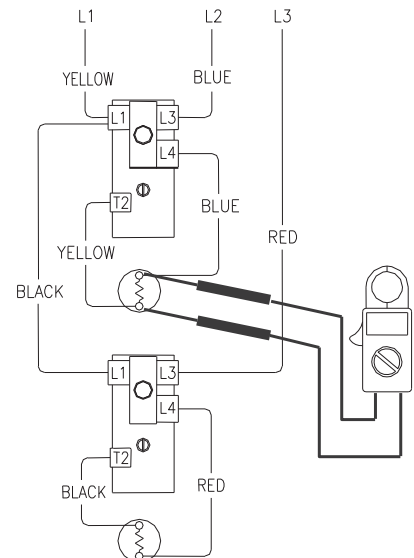

Figure 19
5. Check across upper element terminals (see Figure 19).